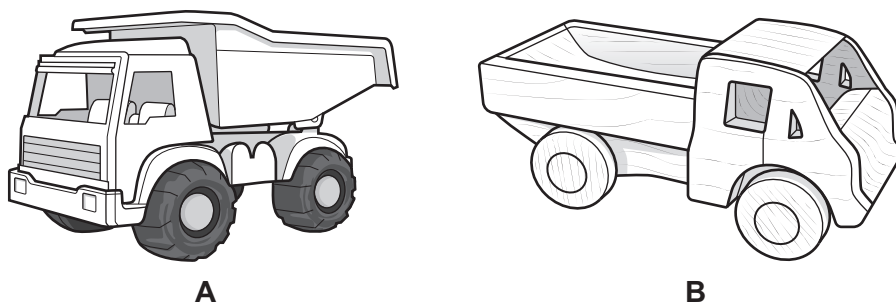

Fig. 10.1
- 10 Fig. 10.1 shows two children's toy trucks.